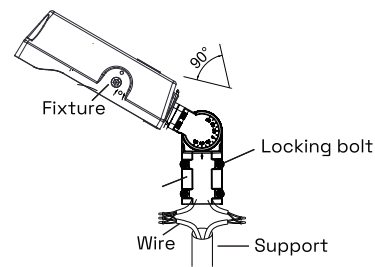

Fig 2.4
Step 3: Loosen screw, adjust fixture angles as per actual demands and tighten screws later. angles of the fixture is adjustable (pass the bracket through mounting surface, fix it with screws, then connect the wires as per proper wiring requirement. Figure 2.4